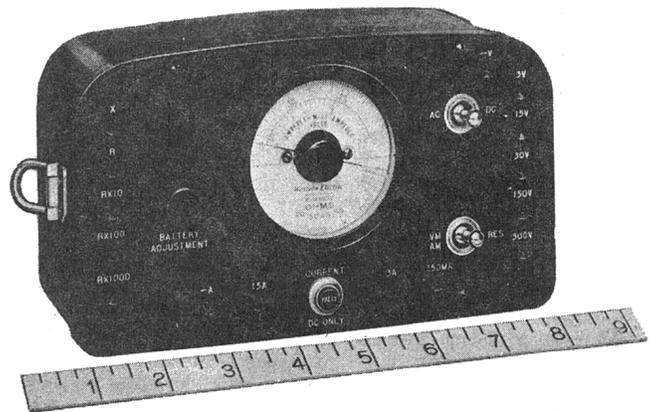

Fig. 1 - M9B Meter - face View
1.03 A special double-pointer meter movement provides unusual legibility of scales; the linear voltage and current scale markings are grouped in the upper semicircle of the meter face, and the nonlinear resistance scale is located under the pointer sweep on the lower semicircle of the meter face. The wide angle sweep (150 degrees) of the pointer adds to the legibility of the scales. A nonglare, hardened glass window is used. All circuit connections are made to positive contact pin jacks. Fig. 1 shows a face view of the M9B Meter.
2.04 A face view of the volt-ohm-milliammeter is shown in Fig. 1. All the connections to the meter are made by means of pin jacks. Connections for resistance measurements (X and R jacks) are on the left side of the panel; those for voltage measurements (V jacks) are located on the right side of the panel and current measuring (A and MA jacks) are located along the lower part of the panel.